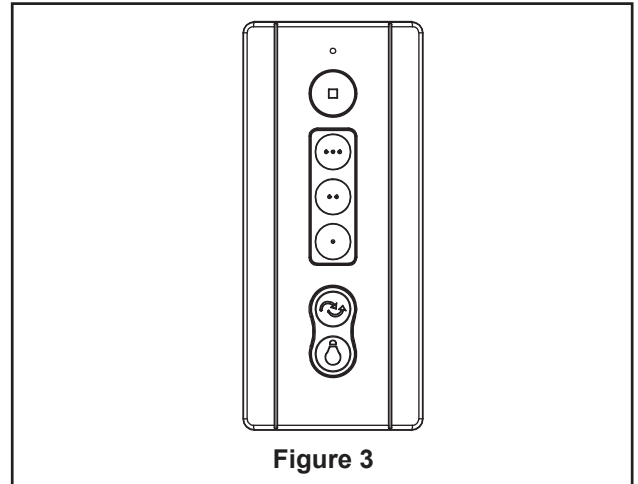

Figure 3
3. The remote buttons instruct as below: (Figure 3)